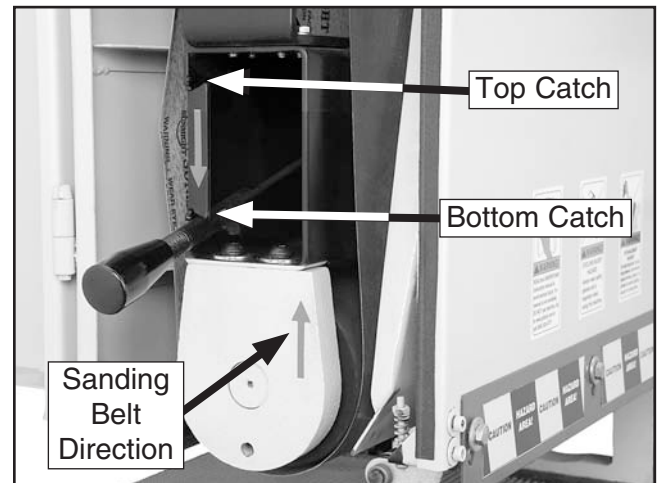

Figure 20. Sanding belt tension lever secured under bottom catch.
- b. Use moderate force to push the tension lever down, then secure it under the bottom catch, as shown in **Figure 20**.
Note: Some sanding belts are designed to sand in only one direction and have arrows printed on the inside of the belt to show that direction. The front of the sanding drum support has an arrow pointing up showing the direction the sanding belt will travel when in operation (see **Figure 20**). Match these two directions as you install the sanding belt.